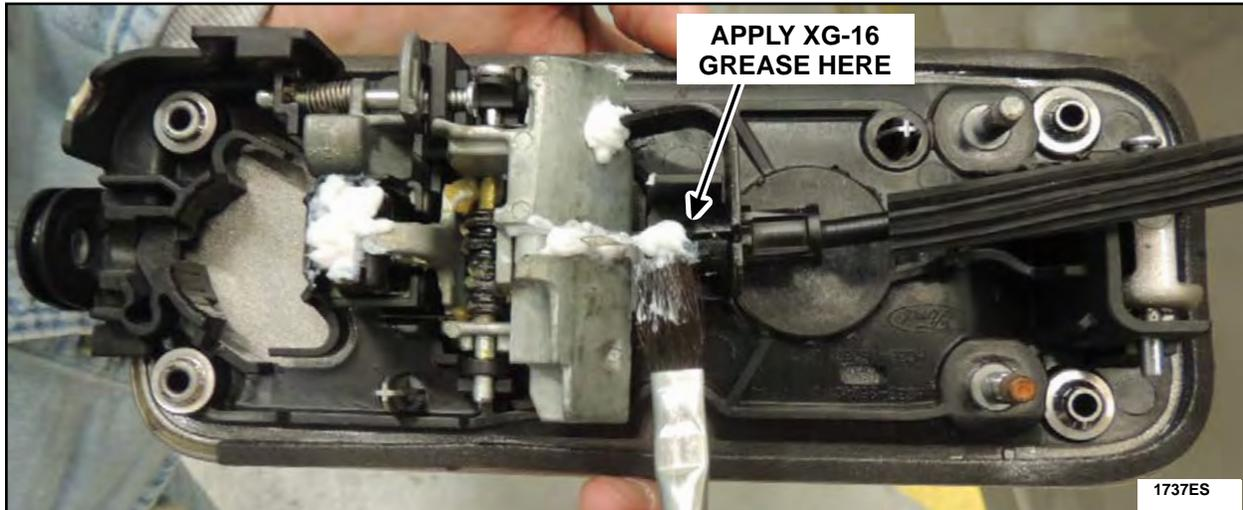

FIGURE 99
25. Reconnect the exterior door handle cable to the door handle, then lubricate the door handle cable end with XG-16 low temperature grease as shown in Figure 99.